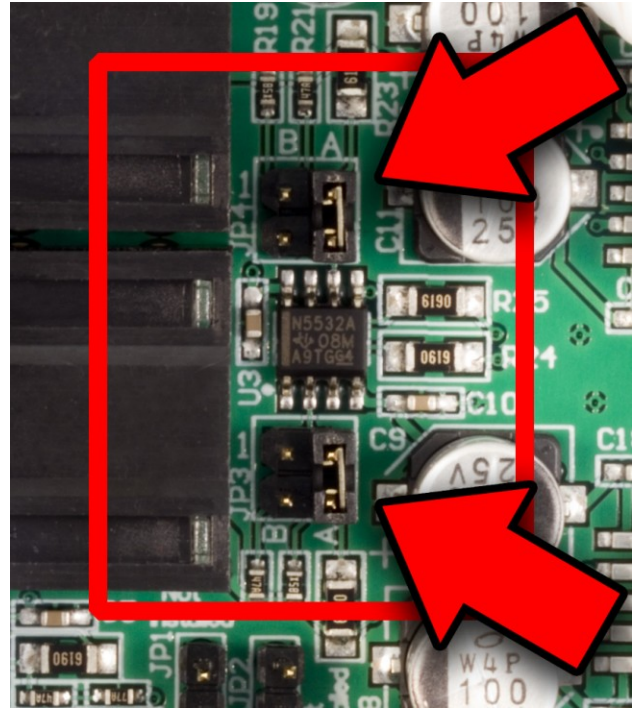

Figure 4 - HPA2™ Gain is 0 dB
- **Gain = 0 dB** - see **Figure 4**